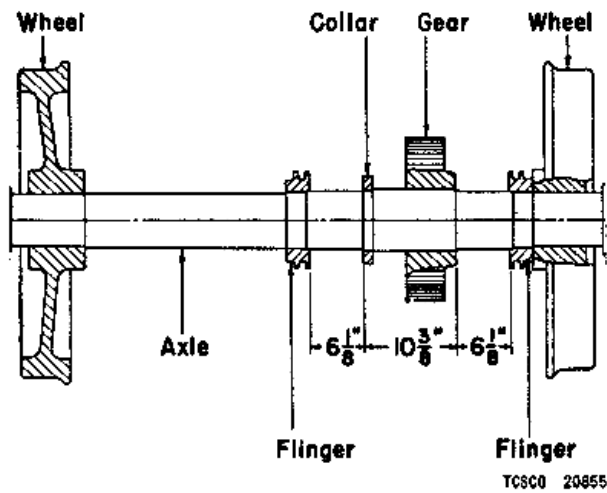

Figure 44. Wheels, axle and flingers, sectional view.
- (1) Place flingers in an oil bath and heat to 150° C.
- (2) Remove flingers from oil bath and quickly slide them into place on the flinger seats of the axle, with the larger diameter flat side adjacent to the motor bearing seat.
- (3) The distance from the flinger to the journal face of the thrust collar or to the journal face of the gear hub must be 6 1/8 inches (fig. 44).
- (4) It is suggested that gage blocks 6 1/8 inches long be used for spacing the flingers.